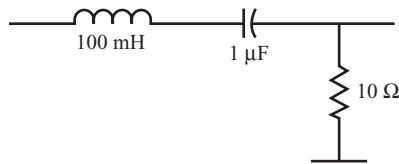

FIGURE 7.35
- 22** Use the circuit and component values shown in Figure 7.35 to answer the following questions.